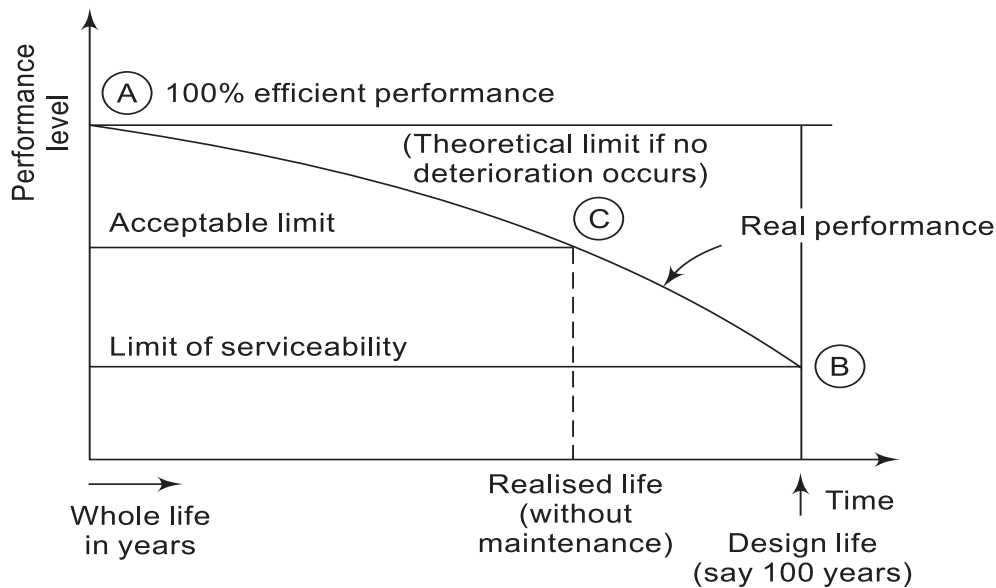

Fig. 29.14 Performance Model
The purpose of the maintenance of a concrete structure is to ensure its safety and serviceability at acceptable performance levels. Structural safety and serviceability are essential. The performance level shows the level of satisfaction by the user with respect to the functional utility of the structure. This is illustrated with the help of a performance model in Fig. 29.14. As can be observed from the figure, the performance (A) of the structure deteriorates from the day the structure is opened for use and becomes unserviceable at stage B after, say, 100 years. However, the useful life of the structure may get terminated at stage C owing to the performance level going below the functionally acceptable limit. Hence the realized service life is less than that for which the structure was designed. In the absence of any regular maintenance this reduction can range from 10 to 80 years depending on the severity of environment. To achieve the full designed service life, periodical maintenance thus becomes inevitable.